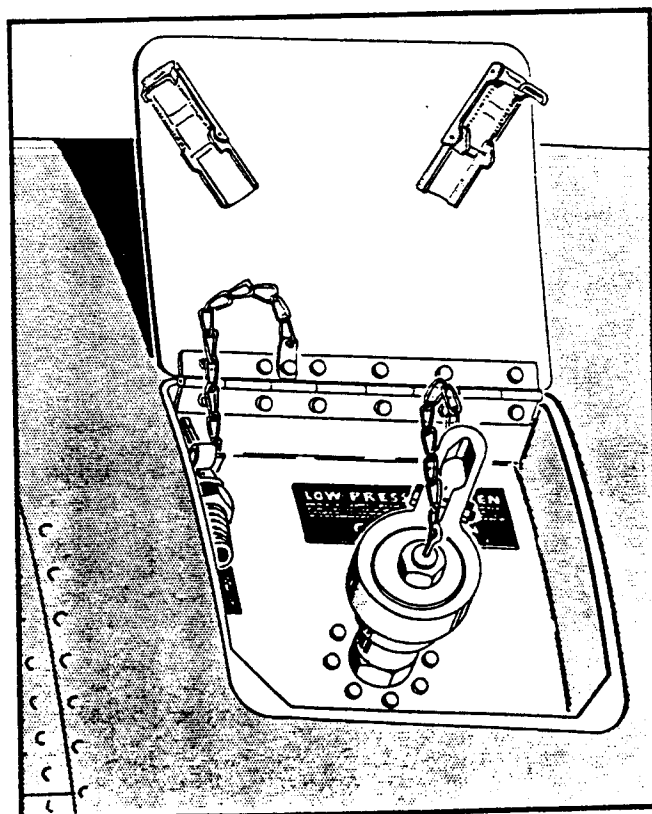

Figure 5. Oxygen Filler Valve
(5) INSTALLATION.- Mount the portable oxygen regulator and cylinder assembly in the mounting bracket provided on the airplane.
(6) OPERATIONAL CHECK.- Before using the portable oxygen assembly, make sure that there is a sufficient supply of oxygen by checking the pressure gage mounted on the regulator.
e. FILLER VALVE. (See figure 5.)
(1) DESCRIPTION.- A type I filler valve, used in charging the oxygen system is located